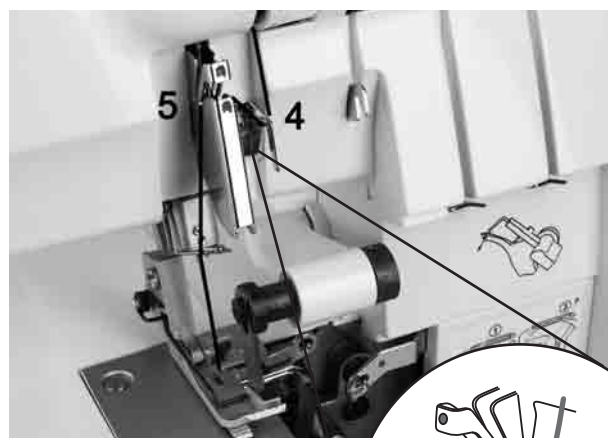

Fig. 32
4. Thread the yarn as per the blue markings (4 - 6) (Fig. 32/33).